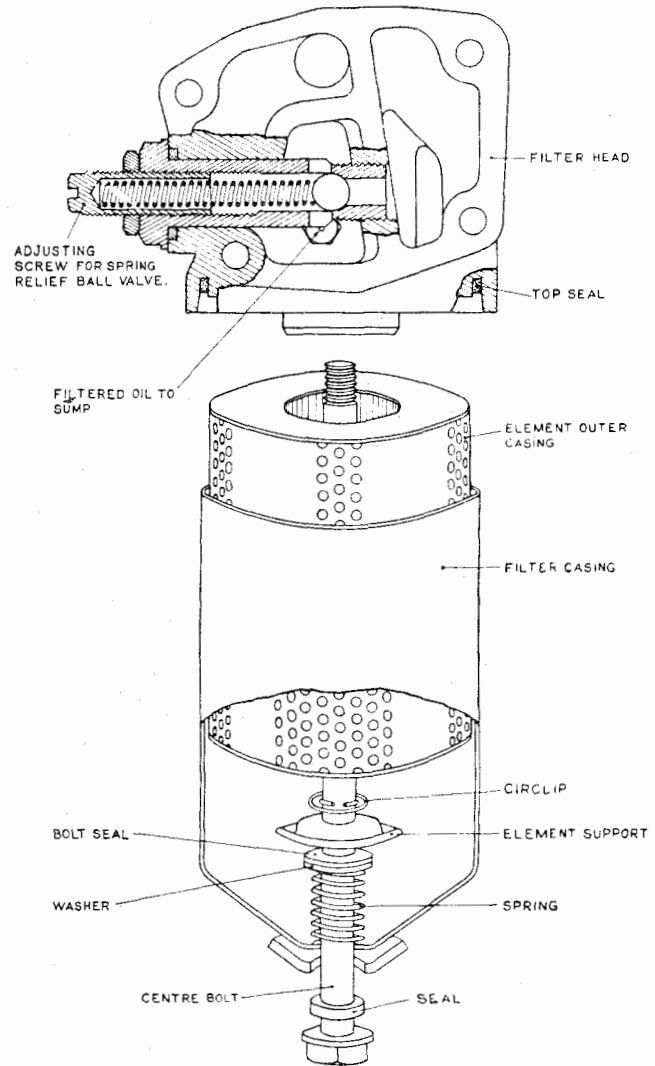

Fig. 29
18. THE "PUROLATOR MICRONIC" OIL FILTER — TYPE 17F. 5102 (Fig. 29)